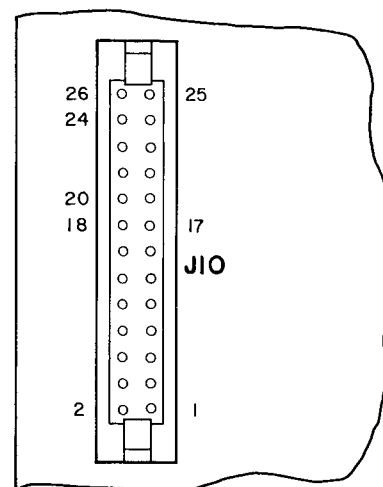

Fig. 23 — Display Board Connector
STEP 7 — DISPLAY BOARD CONNECTION CHECK-OUT — Turn power OFF and *disconnect ribbon cable*. Connect the negative test lead to TP18 or TP20 on the processor board. Turn power ON. You should get the following voltages at connector J10 (see Fig. 23).